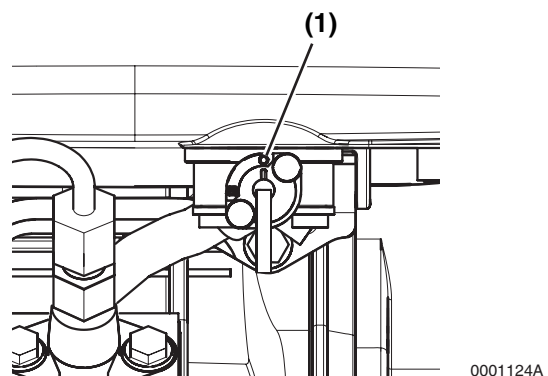

Figure 9
2. Make sure the fuel cock is in the ON position (**Figure 9, (1)**).